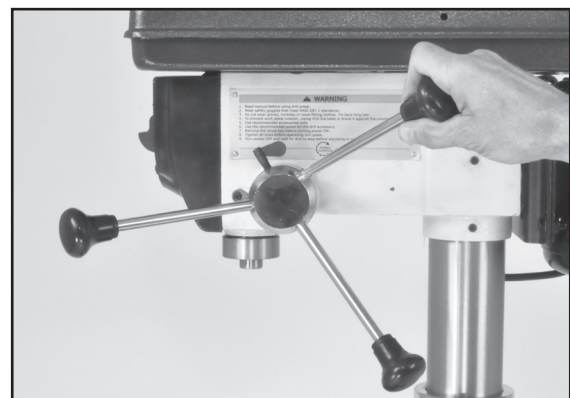

Figure 8
4. Attach the 3 feed handles into the threaded holes in the handle hub. Fig. 8